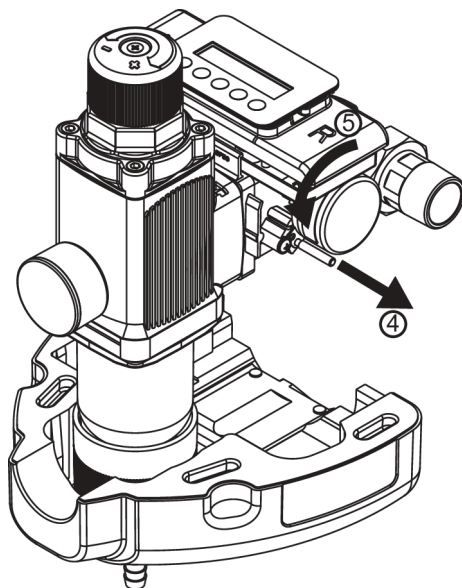

Fig. 7: Remove the red locking pin and rotate the motor
4. Remove the red locking pin (see Figure 7).
5. Turn the motor **counter-clockwise** through approximately 90 degrees ($\frac{1}{4}$ of a turn; see Figure 7). It is not necessary to release any screws to do this.